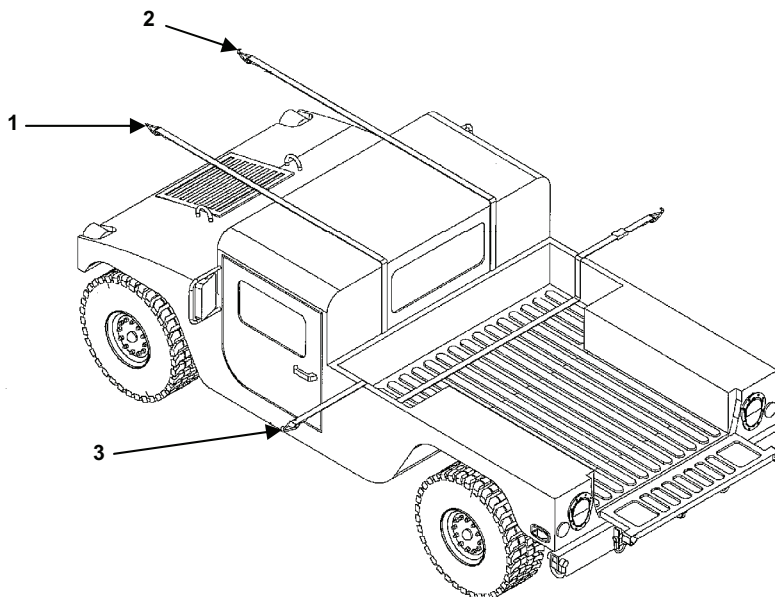

Figure 4. Tie Down Strap Layout.
6. Install one of the hooks of tie-down ratchet straps (Figure 4, Item 1) and (Figure 4, Item 2) in the rings behind the cab and lay the straps out over the cab.
7. Lay down the tie down strap (Figure 4, Item 3) across the bed closest to the cab.